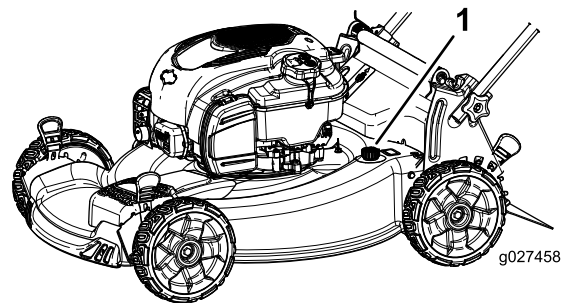

Figure 28
5. Attach a garden hose that is connected to a water supply to the washout port on the machine (Figure 28).